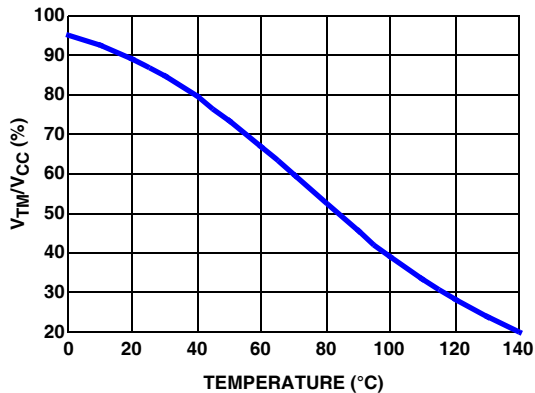

FIGURE 15. THE RATIO OF TM VOLTAGE TO NTC TEMPERATURE WITH RECOMMENDED PARTS
Figure 15 shows the TM voltage over temperature for a typical design with a recommended $6.8\text{k}\Omega$ NTC (P/N: NTHS0805N02N6801 from Vishay) and $1\text{k}\Omega$ resistor R_{TM1} . We recommend using these resistors for accurate temperature compensation.
Based on the V_{CC} voltage, ISL6336B converts the TM pin voltage to a 6-bit digital signal for temperature compensation. With the non-linear A/D converter of ISL6336B, the TM digital signal is linearly proportional to the NTC temperature. For accurate temperature compensation, the ratio of the TM voltage to the NTC temperature of the practical design should be similar to that in Figure 15.
1. Properly choose the voltage divider for TM pin to match the TM voltage vs temperature curve with the recommended curve in Figure 15.